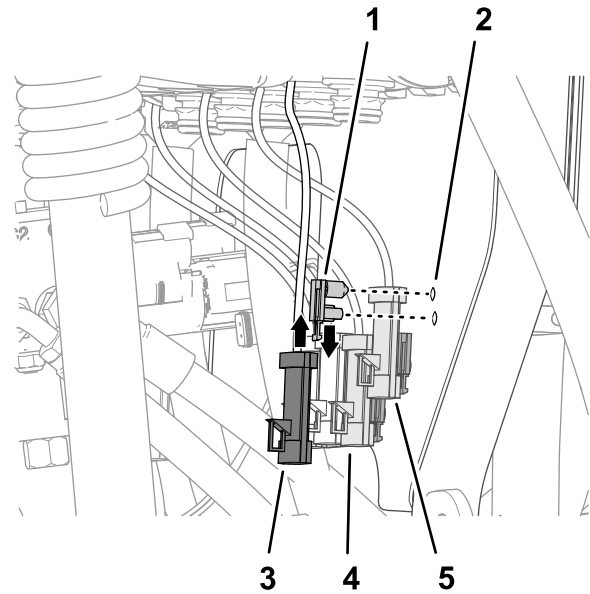

Figure 113
1. Assemble the connector anchor push-in fasteners onto the holes in the valve mount (Figure 113).